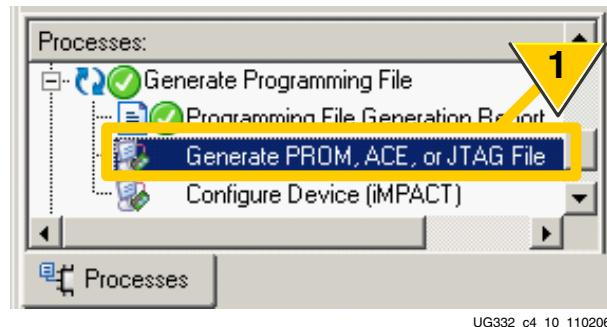

Figure 3-7: Double-click Generate PROM, ACE or JTAG File
1. From within the ISE Project Navigator, double-click **Generate PROM, ACE, or JTAG File** from within the Process pane, as shown in Figure 3-7.